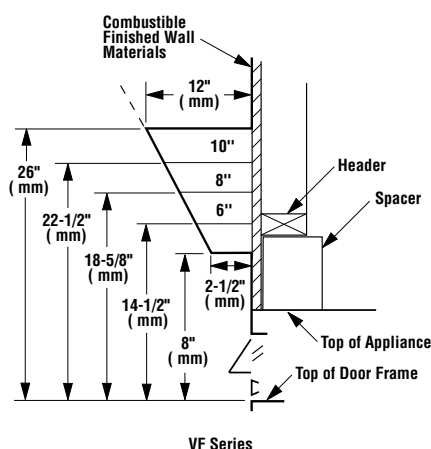

Figure 2
Ensure the minimum clearances shown in *Figures 2 and 3* are maintained.
In order to install the appliance facing flush with the finished wall, position the framework to accommodate the thickness of the finished wall (Refer to Figures 2 and 3).
Step 9. Secure Heater – Bend the tabs down (*Figures 2 and 15*). Using two (2) screws securely tighten the appliance to the platform.